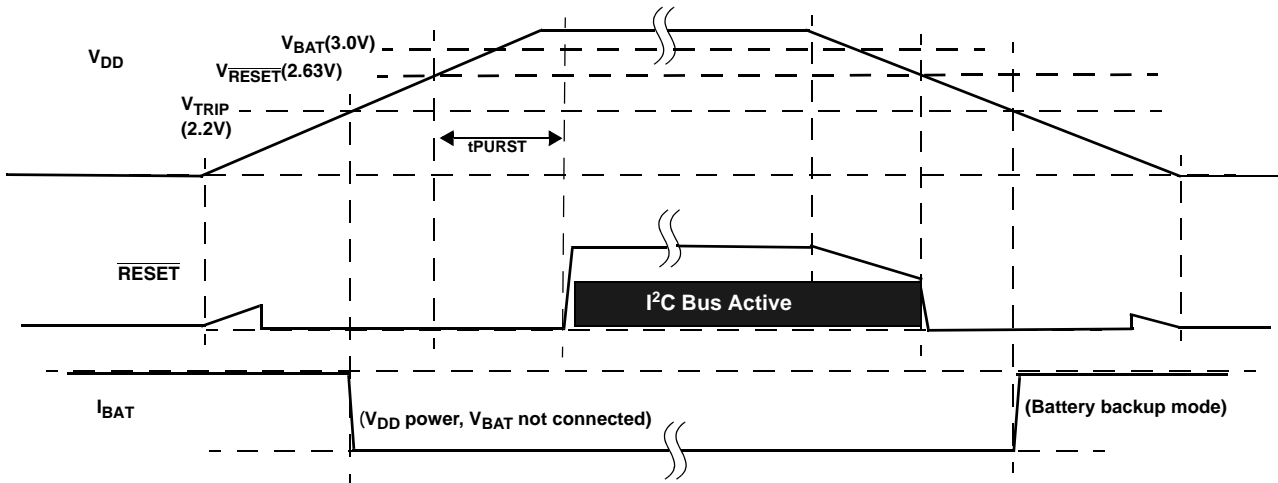

FIGURE 29. EXAMPLE RESET OPERATION IN MODE A OR C
- Mode A - In this mode selection bits indicate a low VDD switchover combined with I2C operation in battery backup mode. In actuality the VDD will go below VRESET before switching to battery backup, which will disable I2C ANYTIME the device goes into battery backup mode. Regardless of the battery voltage, the I2C will work down to the VRESET voltage. See Figure 29.
- Mode C - In this mode the selection bits indicate a low VDD switchover combined with no communications in battery backup. Operation is actually identical to Mode A with I2C communications down to VDD = VRESET, then no communications. See Figure 29.